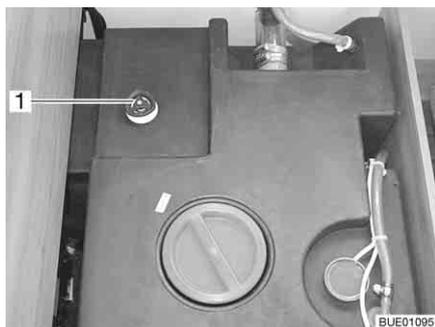
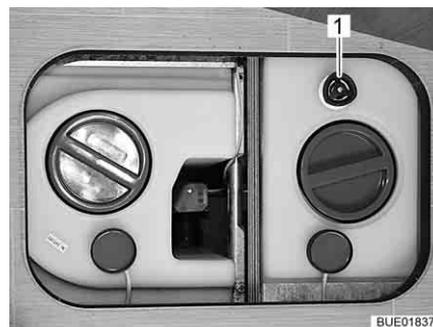

Fig. 224 Water tank with handle (Viseo)
Fig. 225 Water tank with handle (Elegance)
- Turn the handle (Fig. 224,1 or Fig. 225,1) on the water tank in an anticlockwise direction as far as possible beyond the resistance to fully open the drainage opening.